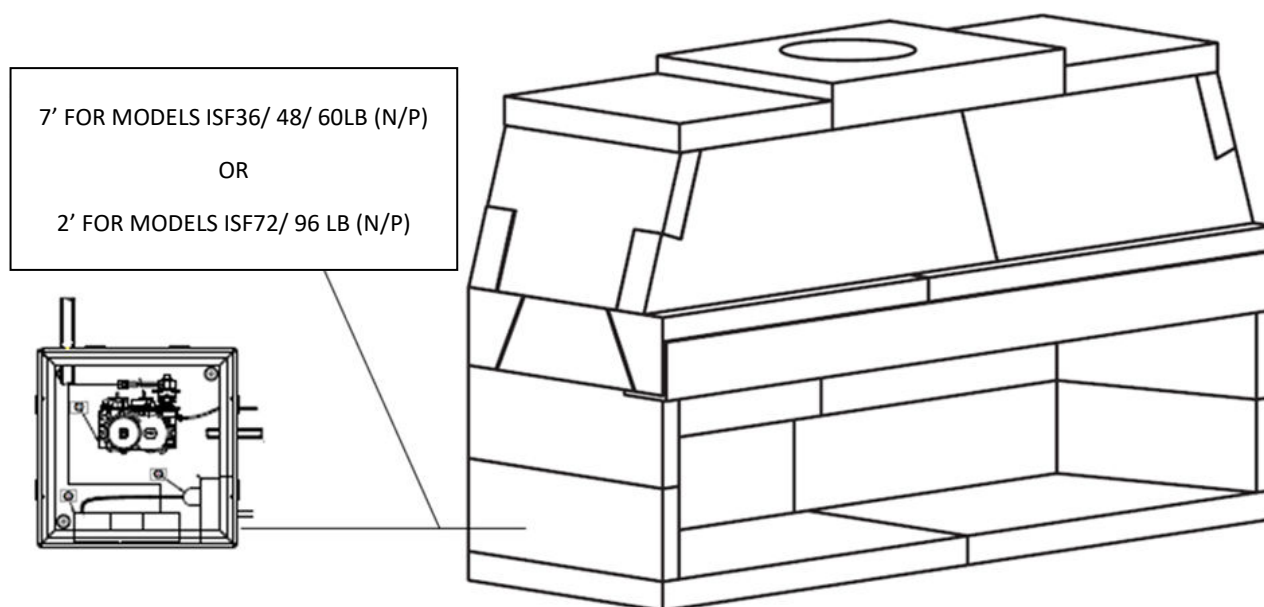

FIGURE 41
- 1) The valve control box comes with an 110" pilot assembly lead; therefore, the box must be mounted within 7' of the fireplace for models ISF36/48/60LB and within 2' for models ISF72/96LB. **(Figure 41)**. This location should be within 4' (48") of the Meridian Control Panel. Valve controls are contained in a 12" x 12" x 4" NEMA 1 enclosure.